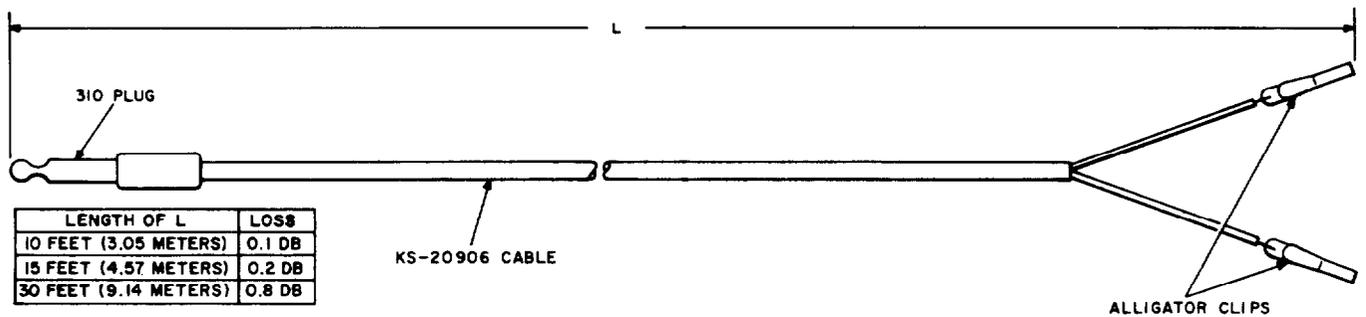

Fig. 11—Method of Constructing Special Cord
4.06 A special cord (Fig. 11) is required for making the carrier distribution test in Section 356-016-501. It can be constructed locally from KS-20906, L1 shielded, 26-gauge, solid, 95-ohm, twisted-pair cable; one 310-type plug; and two alligator clips. The length of the cord will be determined by the type of facility to be tested. For example, a 10-foot (3.05-meter) cord may be sufficient for J68929() bays, but a longer cord may be required for some J98626() frame
arrangements. The shortest practical length should be used and the corresponding loss added to the measurement. This cord should be carefully assembled as shown in Fig. 11 to ensure minimum losses.